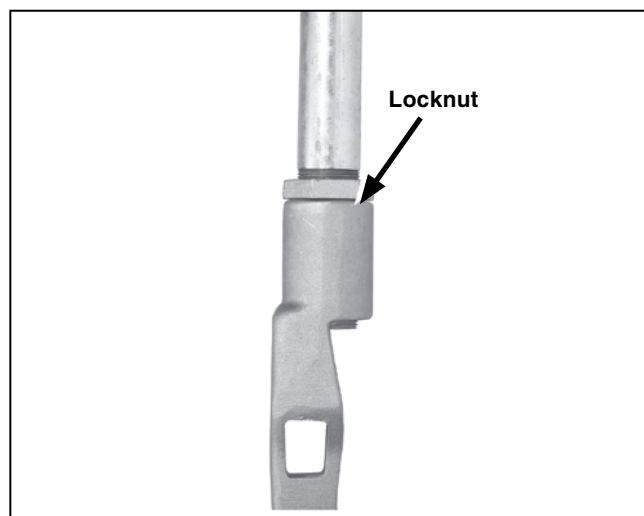

Figure 10. Installing the lowest operating pipe section into the operating handle assembly.
STEP 19. Install the lowest vertical operating-pipe section by threading one end of the pipe into the coupling on the operating-handle assembly. Approximately $\frac{1}{4}$ -inch (6 mm) of thread should extend through the coupling. Tighten the locknut. See Figure 10.